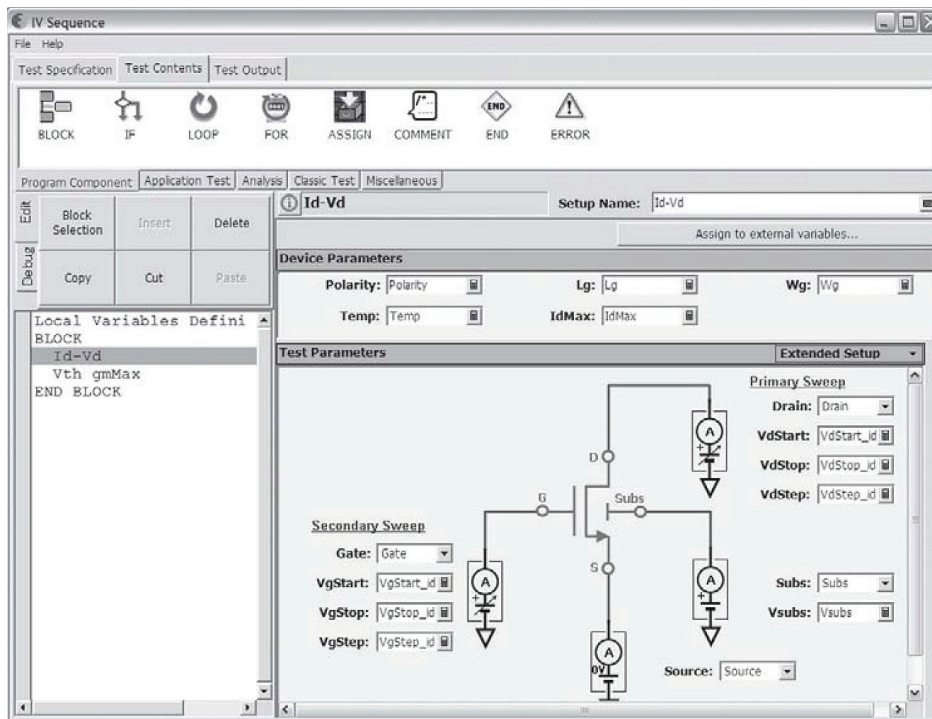

Figure 16. Test Component tab after the variable names from the main window have been inserted into the called application test.
In Step 5, the X-Y placement of the test parameters is specified in the Test Parameters Definition section. If the input parameters only need to be modified occasionally, then they can be placed in the Extended Setup window. This is done by checking the Ext box. The Align check box is used to specify the X origin of the entry field in the Test Parameters area of the main window. As shown in Figure 18, checking this box sets the left edge of the entry field to the specified X-Y coordinate. Unchecking it aligns the left edge of the parameter's name. For the example used in this application note, Id-Vd and Vth gmMax test definitions are used. In order to change the input parameters to either of these tests, parameters must be defined in the new application test. Figure 16 on page 7 clearly illustrates the importance of being able to modify many of the parameters for these application tests. Also, since the B1500A is modular, many different SMU configurations are possible. The default SMU assignments for the Gate, Source, Drain and Substrate terminals can be set up to match a user's default configuration.
- Highlight the line below which a component will be inserted (for example, the Id-Vd line highlighted in Figure 16).
In this example, the Id-Vd and Vth gmMax application test definitions are used and the components appear in the Application Test tab. The components are inserted between BLOCK and END BLOCK statements, as shown in Figure 16.
Figure 16 shows the finished application test window and Table 6 shows the correspondence between the variable names of the called application tests and the variable names used in the new application test that calls the Id-Vd and Vth gmMax application tests.